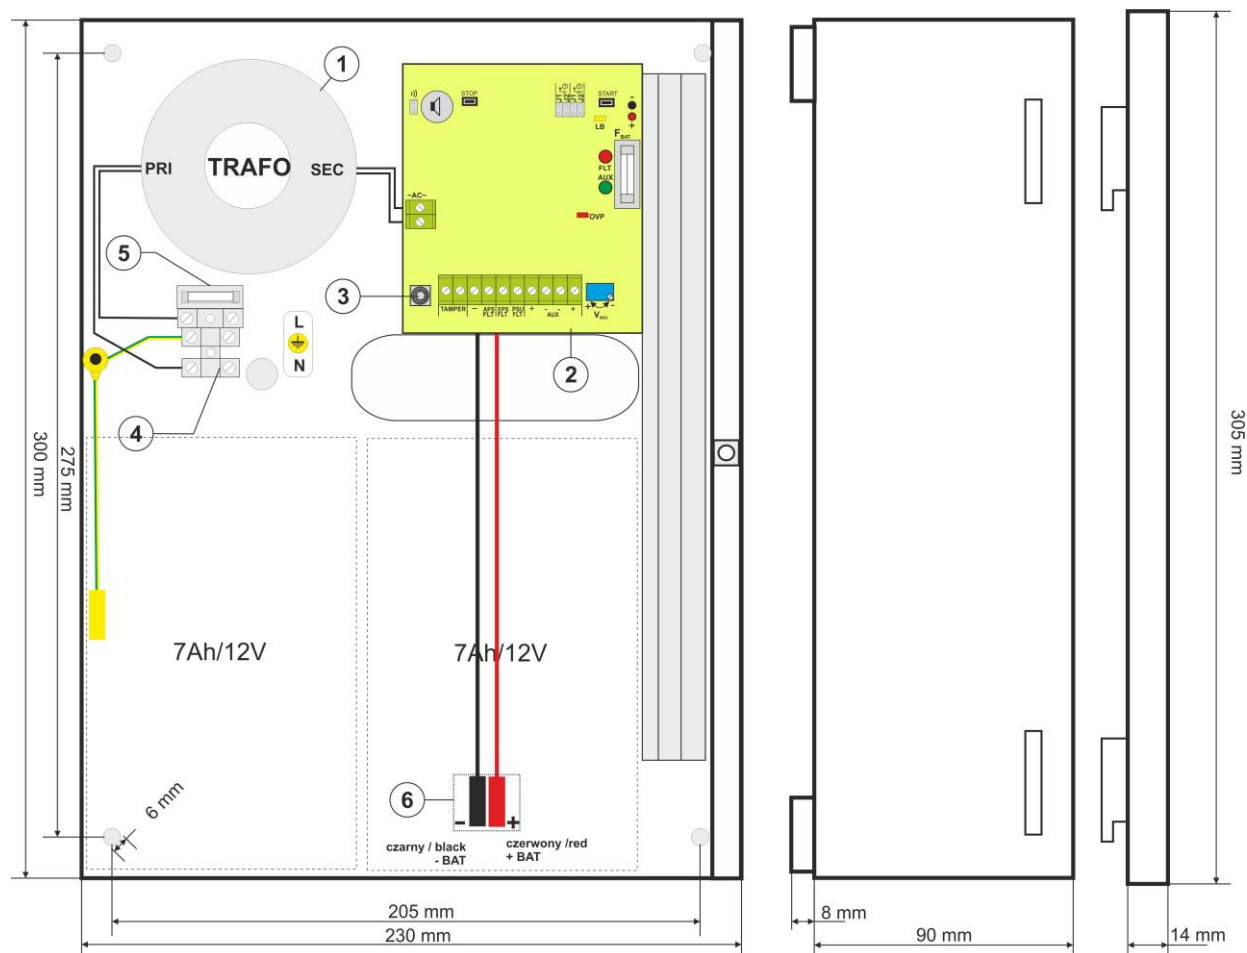

Fig. 3. The view of the PSU.
Table 2. Elements of the PSU (see Fig. 3).
7. Mount the battery in the battery compartment of the enclosure (Fig. 3). Connect the batteries with the PSU paying special attention to the correct polarity.